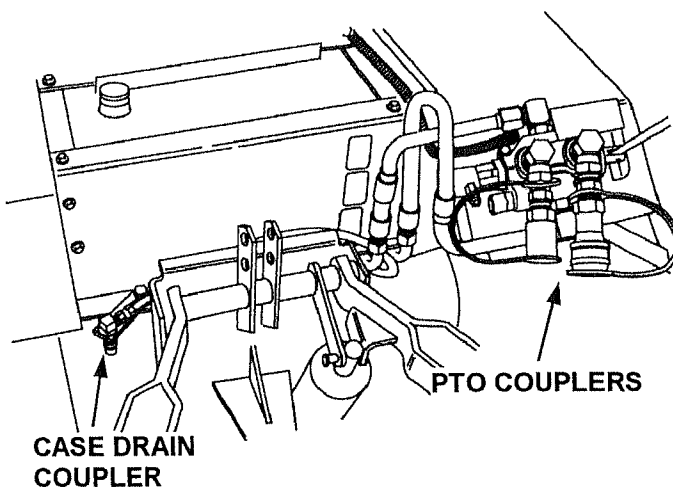

FIGURE 38
6. (See figure 38) Rotate the PTO hydraulic couplers about 10 degrees towards the center of the loader. Tighten securely.